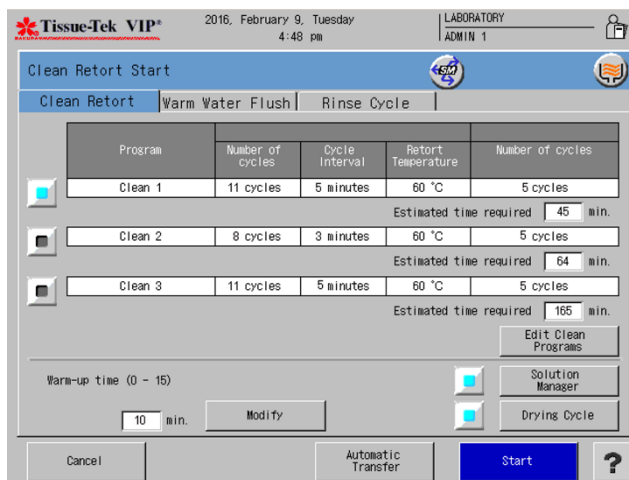

Figure 3-QQQ
- The Cleaning screen displays (Figure 3-QQQ).